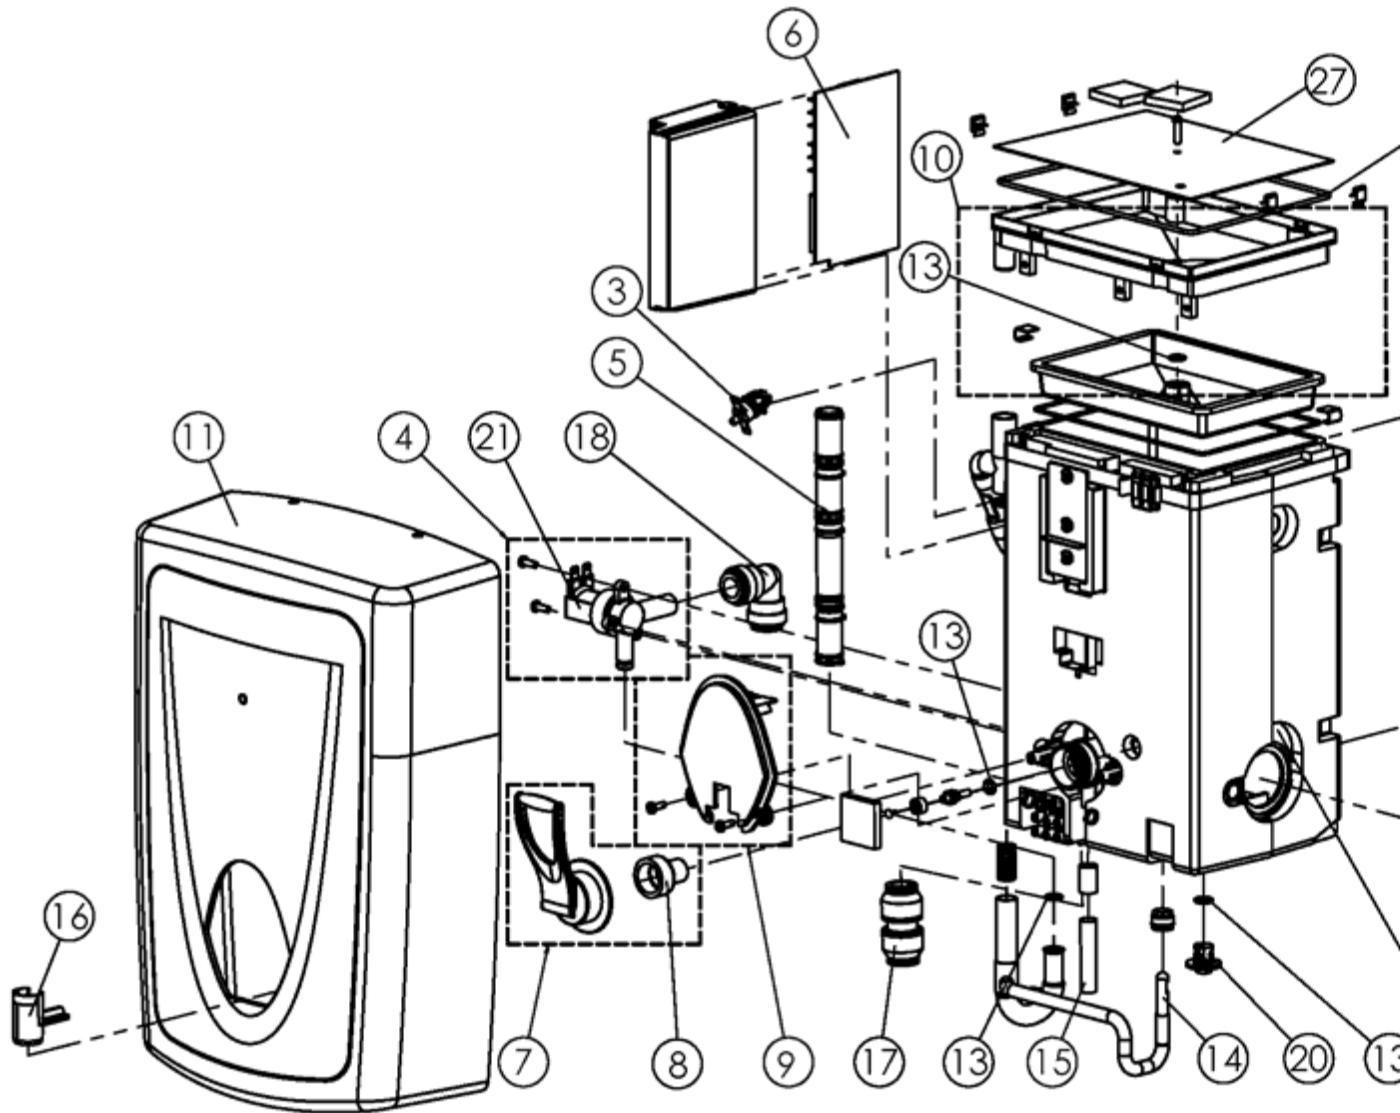

Figure 3: Spares
**Note:** To remove the bezel the handle will have to be operated. This will cause water to discharge from the outlet (see Figure 3 item 9).
**Note:** Excessive adjustment will dismantle the tap, if heated this would result in the uncontrollable release of boiling water (see Figure 3 item 7).